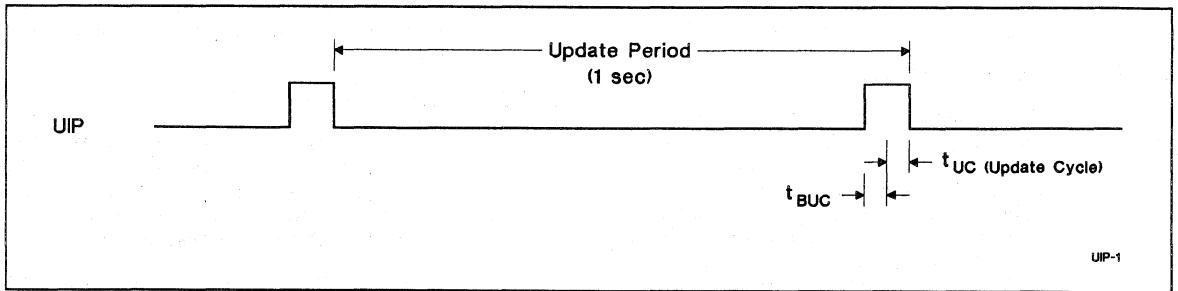

Figure 2. Update Period Timing and UIP
dar locations during the update cycle at the end of each update period (see Figure 2). The alarm flag bit may also be set during the update cycle.
The update-in-progress bit (UIP) in register A is set tBUC time before the beginning of an update cycle (see Figure 2). This bit is cleared and the update-complete flag (UF) is set at the end of the update cycle.